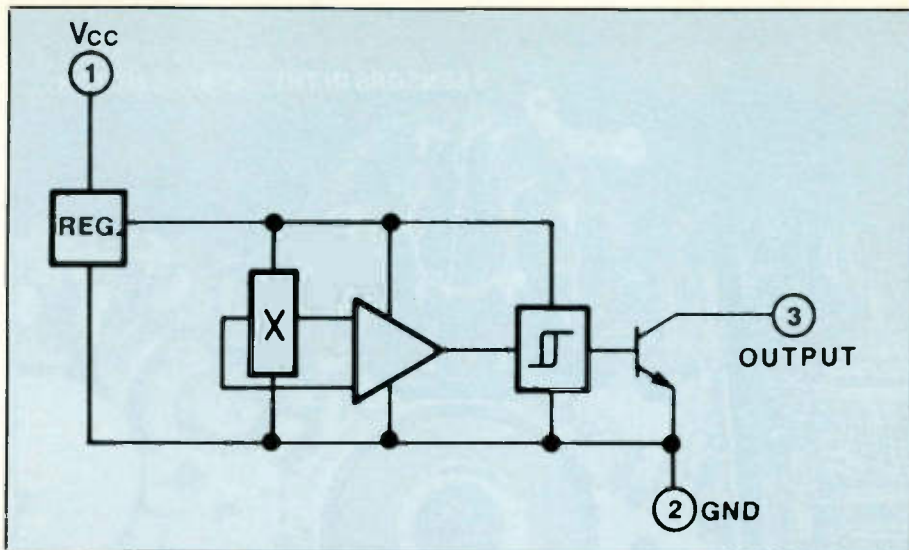

Figure 6. A Hall effect sensor may combine a voltage regulator, amplifier and output stage (Courtesy Allegro Microsystems, Inc., Worcester, MA).
U.S. manufacturers have placed their emphasis on the other circuitry contained in the sensor unit and combine a low output silicon element with a bipolar front end and have on a single monolithic chip a voltage regulator, amplifier, or comparator, and output stage (Figure 6). These silicon units have a linear temperature coefficient of about 4000 PPM/ $^\circ\text{C}$.